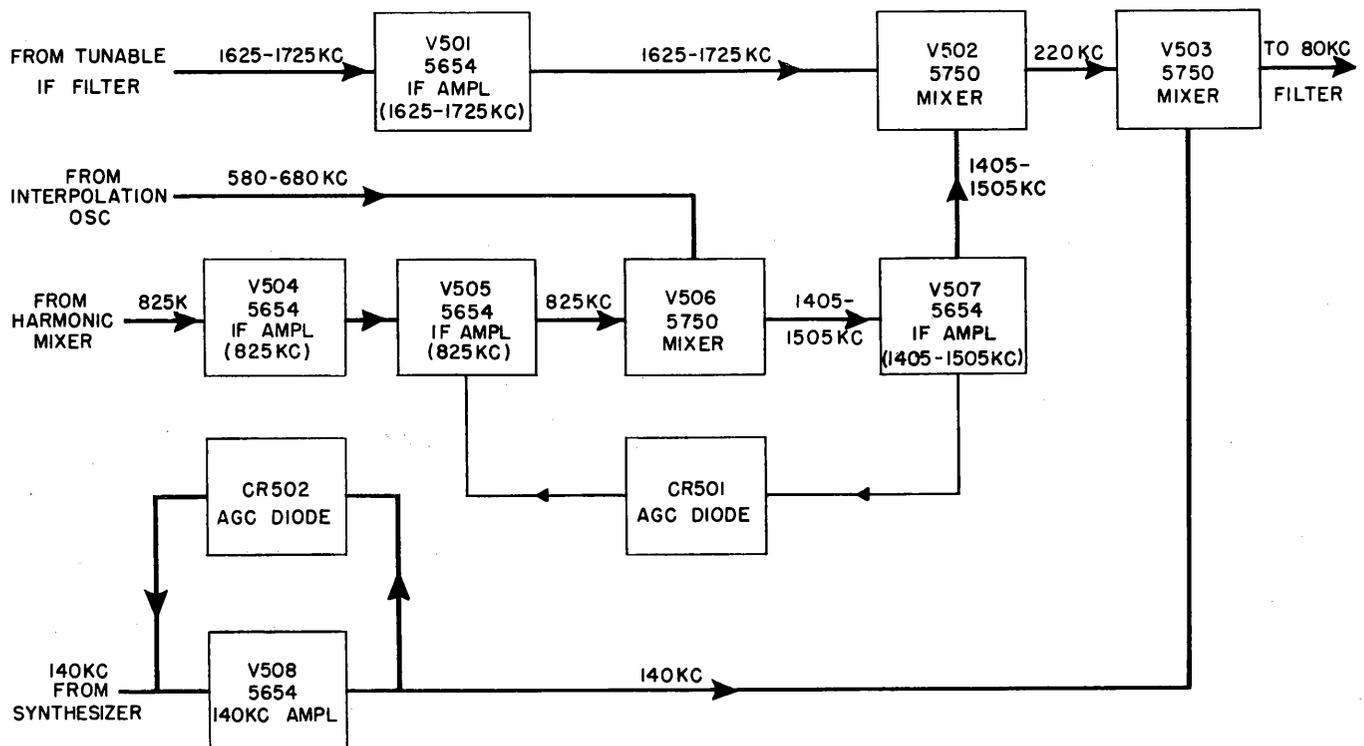
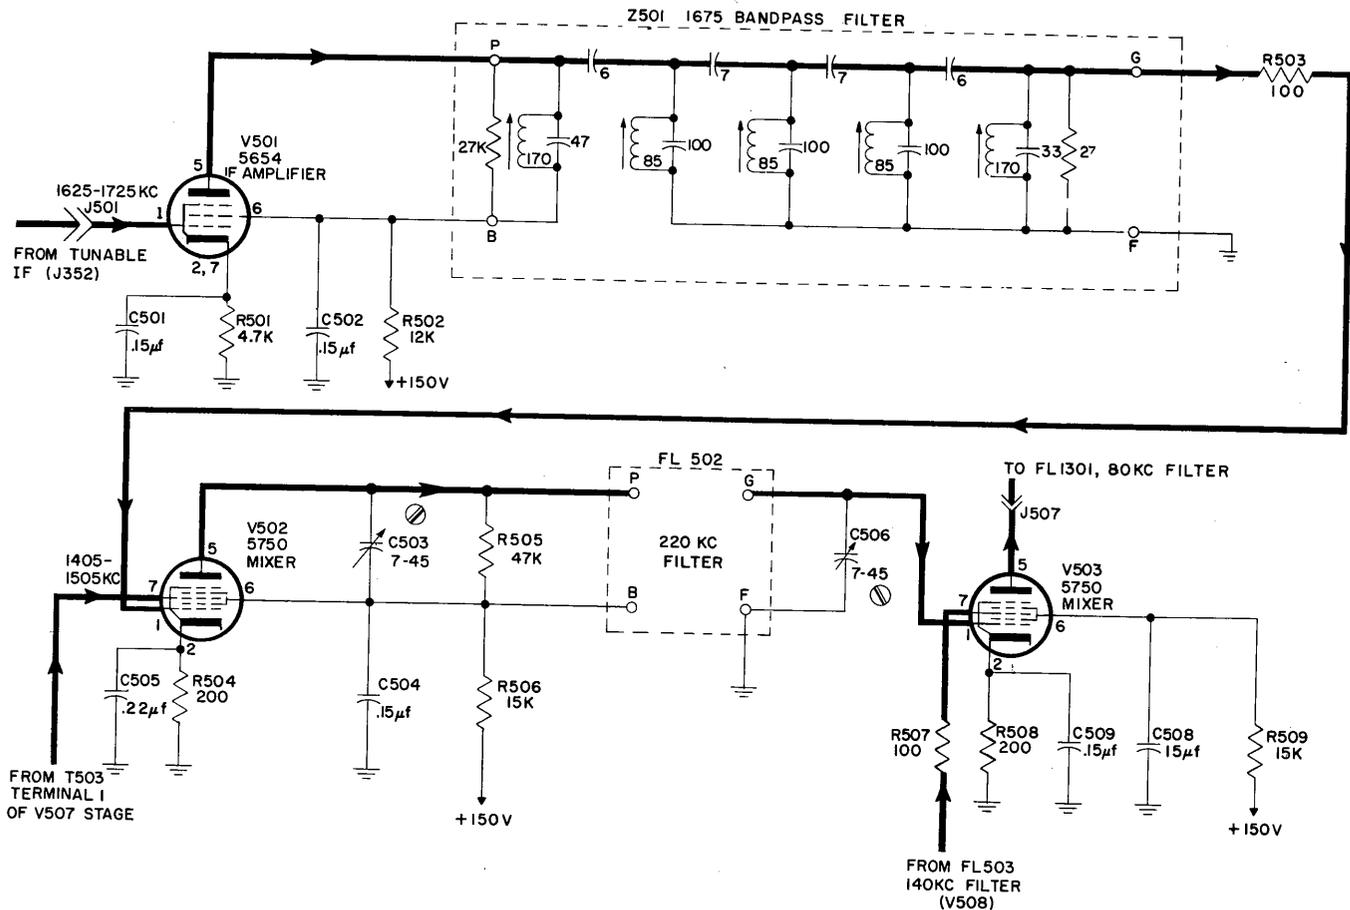
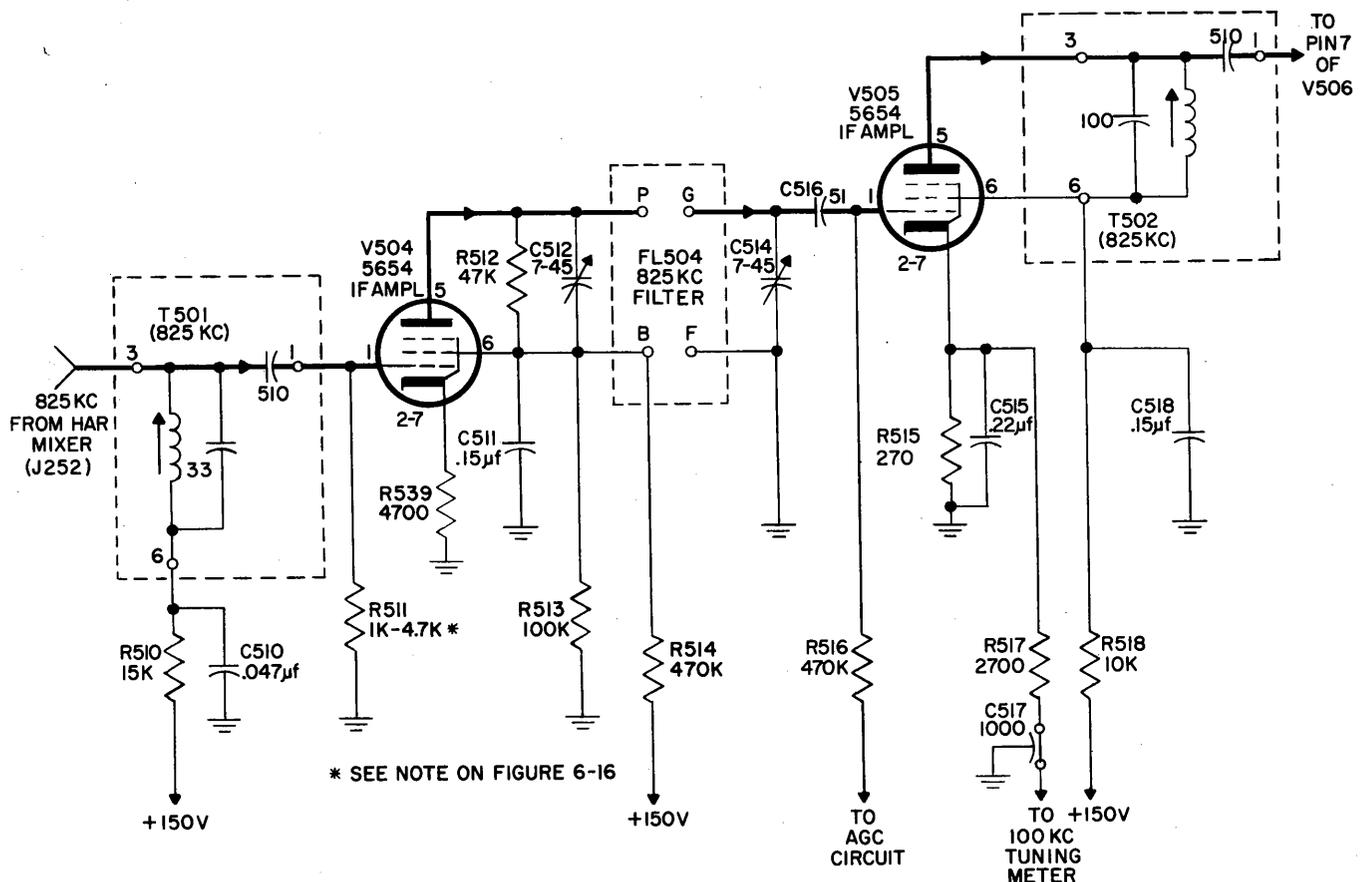
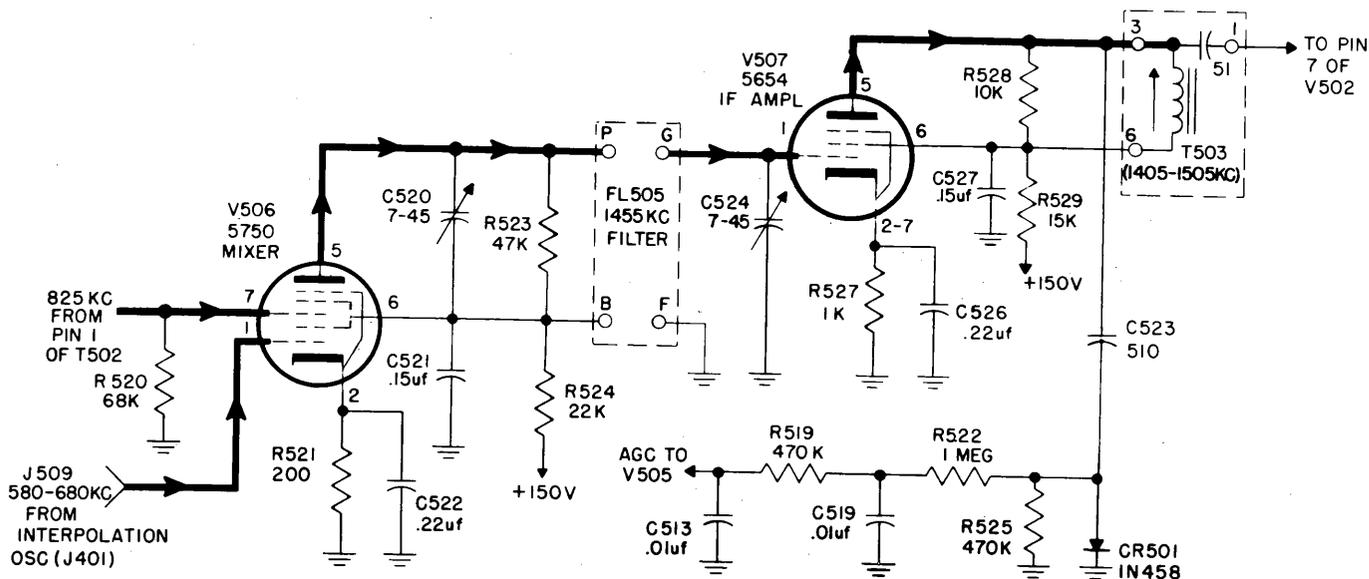

Figure 4-10. Injection IF Amplifier, Block Diagram
Figure 4-12. IF Amplifier V501 and Mixers V502 and V503, Simplified Schematic Diagram
Figure 4-13. IF Amplifiers V504 and V505, Simplified Schematic Diagram
Figure 4-14. Mixer V506 and IF Amplifier V507, Simplified Schematic Diagram
(See figure 4-10.)
(80 kc) from the outputs of the tunable IF filter (1,625 kc to 1,725 kc), the interpolation oscillator (580 kc to 680 kc), the harmonic mixer (825 kc), and the synthesizer (140 kc). As shown in figure 4-10, the output from the tunable IF filter is amplified by IF amplifier V501 and applied to mixer V502, which receives also a signal of 1,405 kc to 1,505 kc from IF amplifier V507. (This second signal is derived from the addition, in mixer V506, of a signal in the range of 580 kc to 680 kc from the interpolation oscillator and 825 kc from the synthesizer.) The 220 kc output of V502 is applied to mixer V503, where it is mixed with the 140 kc signal from the synthesizer and amplifier V508. Two AGC circuits in the injection IF amplifier regulate the signal voltages in their loops. One controls the output of V505, the other the output of V508.
c. IF AMPLIFIER V501, MIXERS V502 AND V503.—As shown in figure 4-12, the output of the tunable IF filter is supplied to IF amplifier V501 through J352 and J501. The plate load of V501 is bandpass filter Z501. Filter Z501 has a 100 kc bandpass with a center operating frequency of 1,675 kc. The output of the filter is applied to grid 1 (pin 1) of mixer tube V502. The second signal required for mixing action is applied to the other input, grid 3 (pin 7) of V502. This signal is obtained from T503 which is the output load of IF
d. IF AMPLIFIERS V504 AND V505.—As shown in figure 4-10, the development of the 1,405 to 1,505 kc signal used by mixer V502 is dependent on inputs from the interpolation oscillator (580 kc to 680 kc) and the harmonic mixer (825 kc). The 825 kc input from the harmonic mixer enters the injection IF amplifier at terminal 3 of T501 (figure 4-13). Intermediate frequency unit T501 is tuned to 825 kc and develops the input signal which is applied across R511 (grid resistor of V504). The output of IF amplifier V504 is impressed across bandpass filter FL504, the center operating frequency of which is 825 kc. This filter passes all signals in the range of 810 kc to 840 kc. The output of FL504 is applied to IF amplifier V505 through
coupling capacitor C516. The plate load of V505 is another intermediate frequency unit (T502, with characteristics similar to those of T501). The output from T502 is applied to pin 7 of V506 (figure 4-14). An AGC voltage, developed at the output circuit of V507, is applied to the control grid of V505 (figure 4-13). When the signal amplitude tends to increase, a greater negative AGC voltage is applied to V505. This reduces the gain of the amplifier, thus reducing the amplitude of its output. Conversely, a decrease in amplitude results in a less negative AGC voltage applied to V505 and a corresponding increase in signal amplitude at mixer V506 (figure 4-14). Provisions for monitoring the plate current are provided in the cathode circuit of V505 (figure 4-13). This feature is used when the receiver is tuned (TUNING $\Delta F = 100$ KC control).
e. MIXER V506, IF AMPLIFIER V507.—As shown in figure 4-14, mixer V506 receives inputs from T502 (825 kc) and from the interpolation oscillator (580 kc to 680 kc) through J509. These inputs are mixed in V506 and supplied to bandpass filter FL505. The output of V506 contains signal components of the following frequencies: (1) 580 to 680 kc, (2) 825 kc, (3) the difference between 825 kc and the 580-to-680 kc range, and (4) the sum of the 825 kc and the 580-to-680 kc range. Since filter FL505 is tuned to the 1,405-to-1,505 kc range, only the sum frequency component of the V506 output will be passed to pin 1 of V507. The amplified output of V507 is developed at T503 and applied to mixer V502 (figure 4-12). A portion of the V507 output is coupled to AGC diode CR501 through capacitor C523. The shunt-connected diode clamps the positive half-cycle of the output signal to ground but allows the negative half-cycle to continue on through to an RC filter network comprised of R525, R522, C519, R519,
and C513. The negative AGC voltage built up in the RC filter network is supplied to the control grid of V505 (figure 4-13). The extent of this negative voltage depends on the amplitude of the incoming signal to IM amplifier V507 (figure 4-14).
The 80 kc filter (FL1301) accepts the 80 kc intermediate frequency developed by mixer V503 (third conversion mixer figure 4-12) and passes it to two detector-amplifier sections of the demodulator. The filter has a center operating frequency of 80 kc with a 12 kc bandwidth. The 80 kc input is applied to the filter through connector J1301. The output of FL1301 is applied to the USB detector-amplifier through connectors J1302